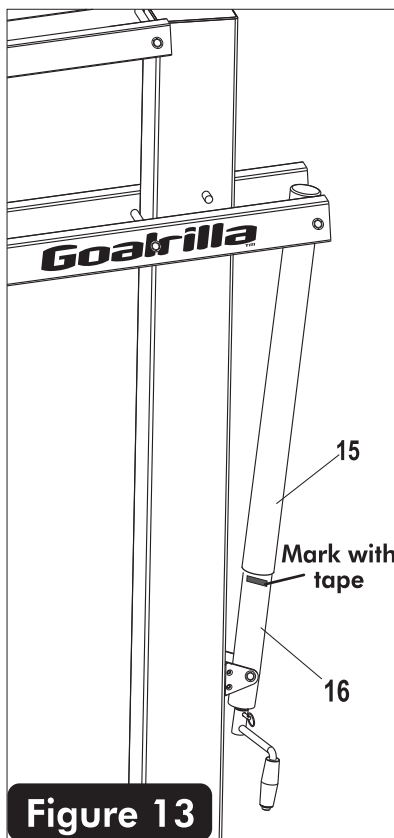

Figure 13
23. Using tape - mark the **side** of the steel actuator (#16) just under the plastic actuator sleeve (#15) at this 10 ft rim height. See **Figure 13**.